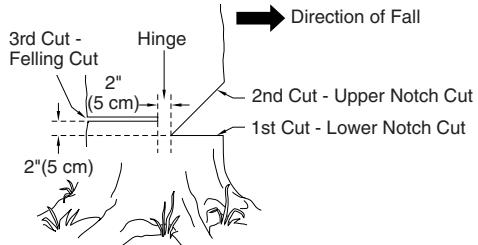

Figure 12 - Felling A Tree
A properly placed felling notch will determine direction tree will fall. Place felling notch on side of tree in direction you want tree to fall (see Figure 12). Follow directions below to create a felling notch.
1. Make lower notch cut as close to ground as possible. Hold saw so guide bar is horizontal. Cut 1/3 the diameter of tree trunk (see Figure 12). **Note:** Always make this horizontal lower notch cut first. If you make this cut second, tree can pinch chain or guide bar.
Example: If lower notch cut is eight inches deep, start upper notch cut eight inches above it. Cut downward at 45° angle. The upper notch cut should meet end of lower notch cut (see Figure 12).
1. Make felling cut two inches higher than lower notch cut and on opposite side of tree (see Figure 12). Keep felling cut parallel to lower notch cut.
⚠ WARNING: Do not cut all the way through tree. Leave about two inches of tree diameter uncut directly behind felling notch (see Figure 12). This uncut portion acts as a hinge. The hinge helps keep tree from twisting and falling in wrong direction.